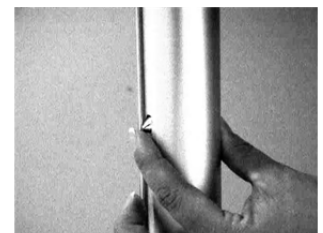

Figure 20
- b) Press in metal pins on both sides of the post (see Figure 20).